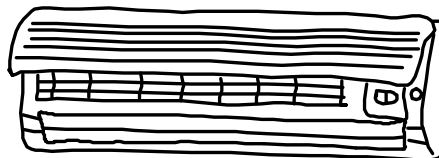

Fig. 4
1. Open the front panel. (Fig.4)